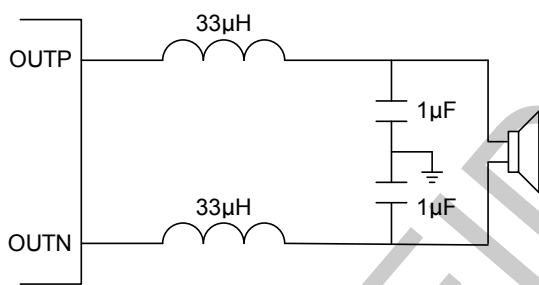
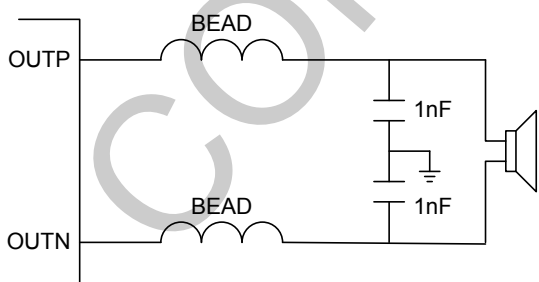

Figure 3. Typical LC Output Filter, Speaker Impedance=8Ω
Figure 4. Typical Ferrite Chip Bead Output Filter
In Figure 4, the 330pF capacitors in series with 10Ω resistors connected with the outputs of the VA2221L are snubber circuits. They smooth switching transitions and reduce overshoot and ringing. With these networks, THD+N can be improved at lower power levels and EMC can be reduced 2~4 dB at middle frequencies. They increase quiescent current by 3mA~11mA depending on supply voltage.
4. Output Filter. The ferrite EMI filter (Figure 4) should be placed as close to the output terminals as possible for the best EMI performance. The LC filter (Figure 3) should be placed close to the outputs. The capacitors used in both the ferrite and LC filters should be grounded to power ground.